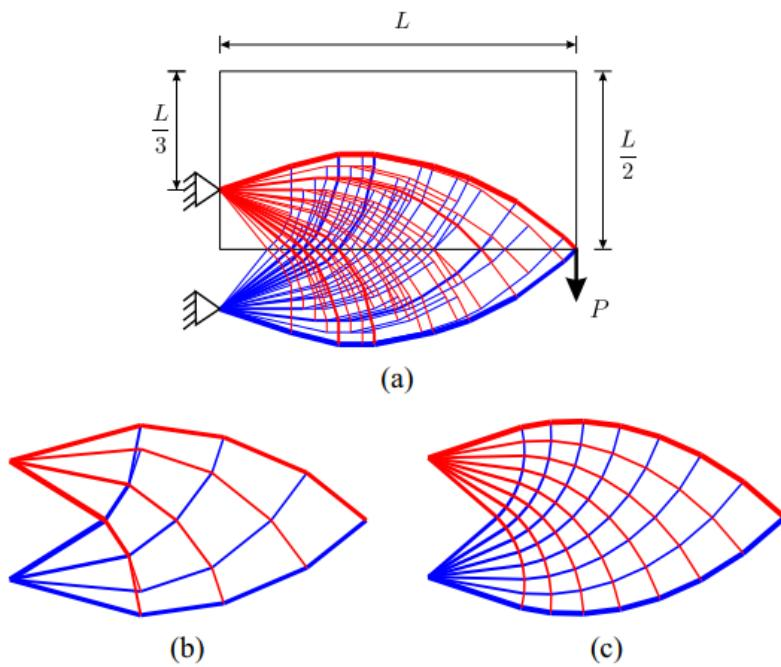

Figure 106 – Rationalization of cantilever truss using joint costs and GO (b) and GO (c)
A sample layout optimization solution and corresponding rationalized (GO) solutions are also shown in Figure 106. It is evident that both rationalization techniques allow simplified solutions to be obtained when compared to the original layout optimization solution (a). However, whereas the volume associated with the solution obtained using joint length rationalization (b) is 1.49 % above the exact value, the solution obtained using geometry optimization rationalization (c) is only 0.23 % above the exact value, a significant improvement on the original layout optimization error of 0.75 %.